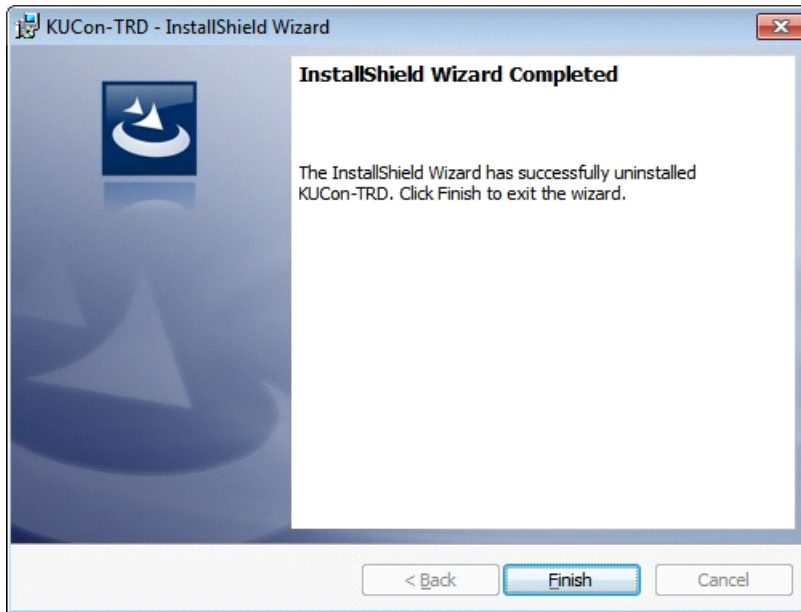

Figure 3-22: InstallShield Wizard - Remove Drivers
4. Click **Remove** to remove drivers from the host system as shown in Figure 3-22.